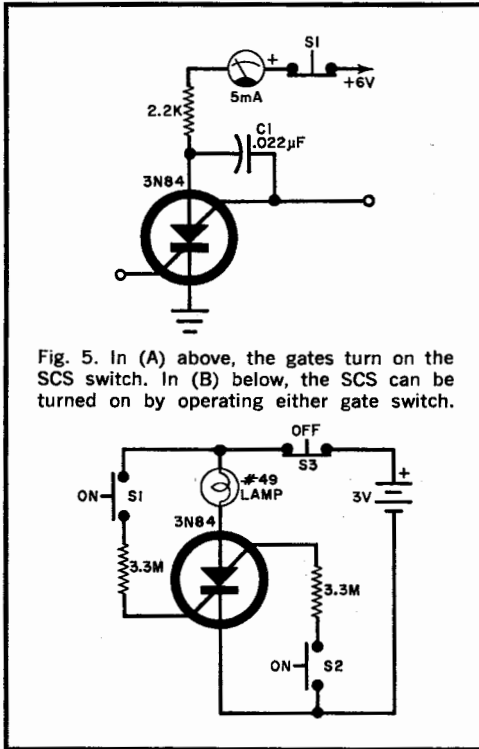

Fig. 5. In (A) above, the gates turn on the SCS switch. In (B) below, the SCS can be turned on by operating either gate switch.
Simple Switching. Now that we have a good concept of what is inside an SCS and how it works regeneratively, let's study its switching properties. To see how sensitive the SCS is to turn-on at its cathode gate, build the circuit shown at (A) in Fig. 5. With the 6-volt supply switched on, note that the meter reads zero. The SCS is in its off state. Actually, a small current does flow in this condition, but it is only a few microamperes and does not indicate on the meter. For most practical purposes, we can assume that the off current of the SCS is zero.
So sensitive is the SCS to turn-on that even a mild switching transient can accomplish it. In the circuit of Fig. 5(A), the transient response is subdued by capacitor $C1$. To prove this, with the power supply on but with the SCS in its off state, press and release $S1$ several times and note that the meter remains at zero. Now do the same with capacitor $C1$ removed from the circuit. Note that the meter needle promptly swings up to about mid-scale, indicating that even the transient produced by switching the power supply off and on is sufficient to turn on the SCS. The only way to keep it off is to open the switch.
problem. In the circuit of Fig. 5(B), for example, where about 40 mA is pulled through the 3N84, shorting the cathode gate to the cathode or the anode gate to the anode will not turn it off. On the other hand, opening the power supply circuit is always effective.
The circuit of Fig. 5(B) can be turned on by closing either *S1* or *S2* momentarily. Very little gate current (only a